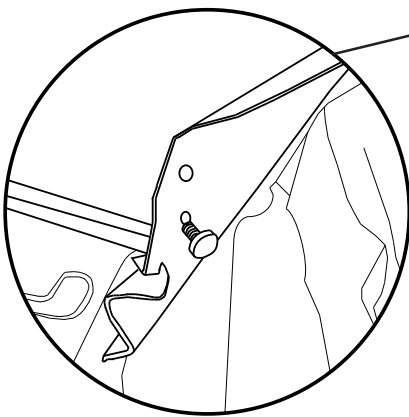

Fig. 6A
10. Pull trunk fabric liner from trunk wall and insert weld stud through lowest hole in the fabric liner on each side. (Fig. 6A)